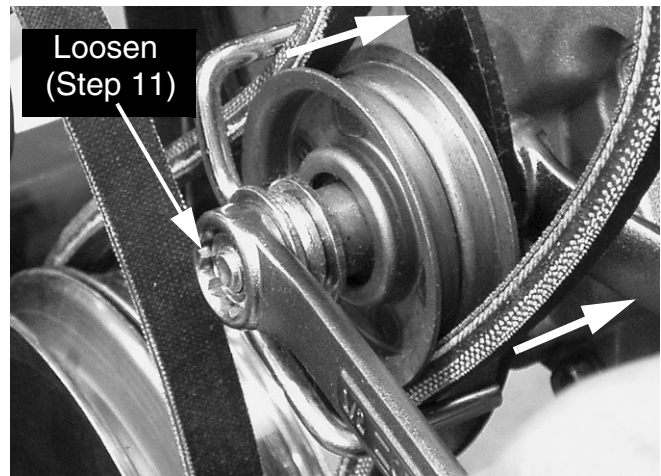

FIGURE 5
11. Using two 1/2" box wrenches, loosen the reverse drive idler pulley mounting bolt just enough to rotate the belt guide providing added clearance to allow removal of the reverse drive belt from both sides of the pulley. Remove the reverse drive belt from the idler pulley. See Figure 5.